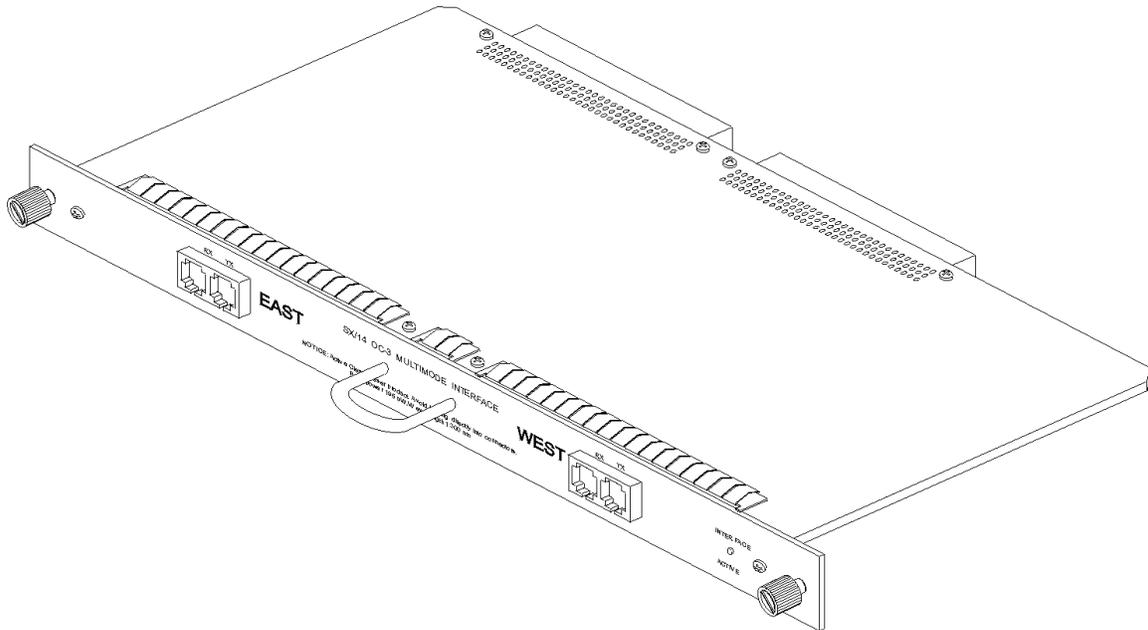

Figure 3.1 SONET OC-3 (155.52 Mbps) MM Interface
The SONET OC-3 (155.52 Mbps) Multimode (MM) interface provides signal conversion between the SX/14's internal format and signals complying with Bellcore, ITU, and ANSI specifications for the 155.52 Mbps SONET OC-3 format. This interface provides East and West dual coupler, optical subscription channel (SC) to receive and transmit data (see Figure 3.1). Use this interface in conjunction with multi-mode optical fiber; use the SONET OC-3 Single Mode (SM) interface with single-mode optical fiber.